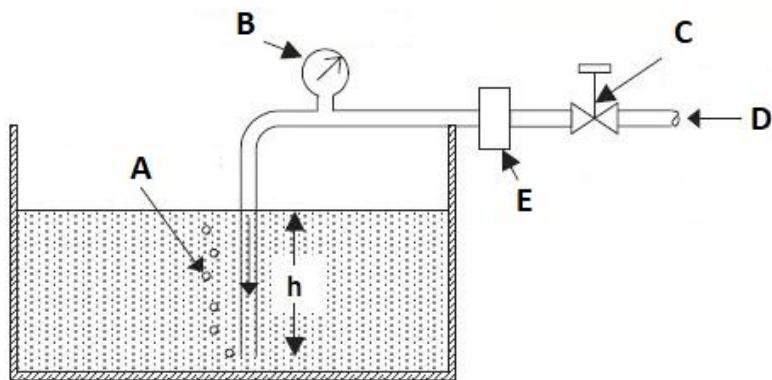

Figure 2 (a) / Rajah 2 (a)
- CLO1 (a) Name the bubbler devices A, B, C, D and E in Figure 2 (a) that are applied in indirect level measurements.